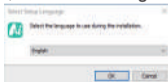

Figure 3
3.1.2 Select “Setup Language”, as shown in Figure 3: